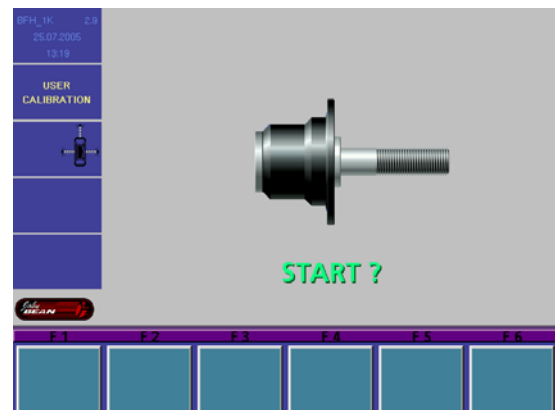

Figure 49
4. Lower the wheel guard and press the **“SPIN”** key. The balancer should spin and come to a complete stop. See Figure 49.